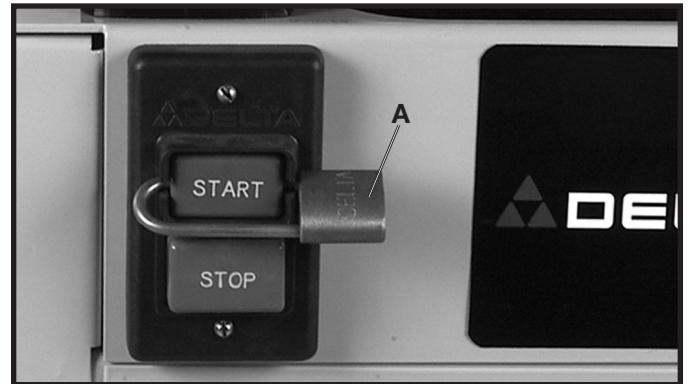

Fig. 11
**IMPORTANT:** When the tool is not in use, the switch should be locked in the OFF position using a padlock (A) Fig. 11, with a 3/16" diameter shackle to prevent unauthorized use.